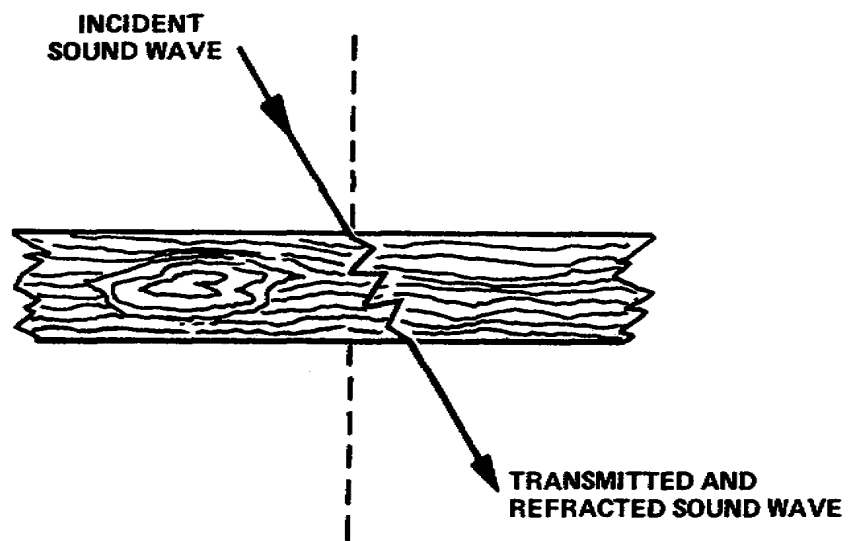

Figure 1-13. Absorption of a sound wave
b. Absorption. When sound strikes a surface, it is both reflected and absorbed. Depending upon the construction of the surface, the amount of reflected and absorbed sound differs; soft porous surfaces like drapes, curtains, or acoustical tile, absorb more sound than hard surfaces. The ideal location to record absorbs sound very well and is acoustically dead and echo free (fig 1-13).